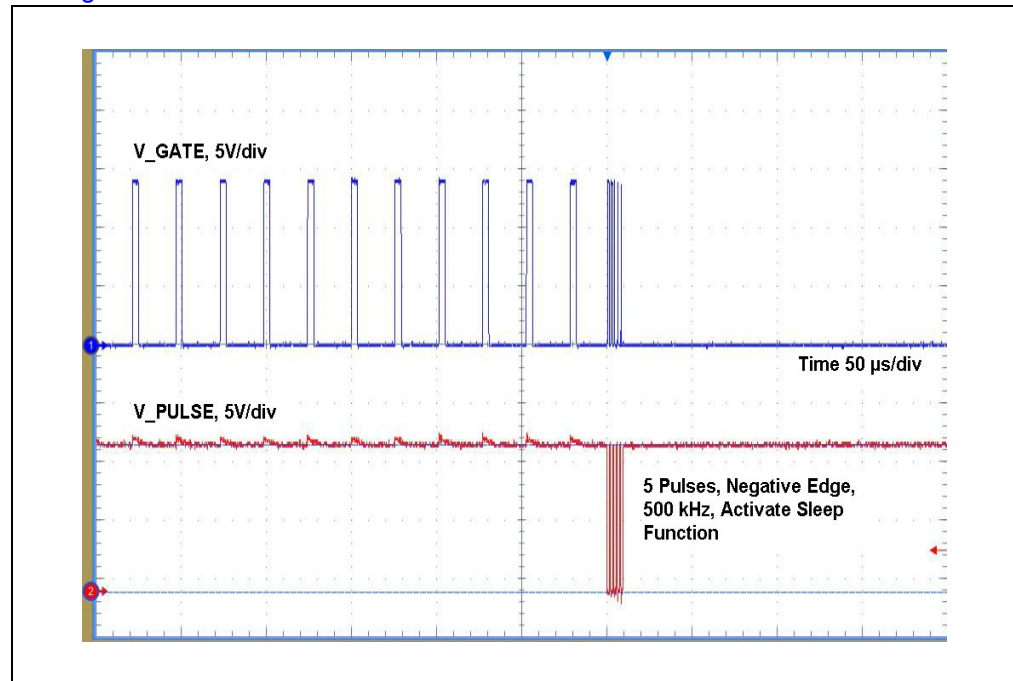
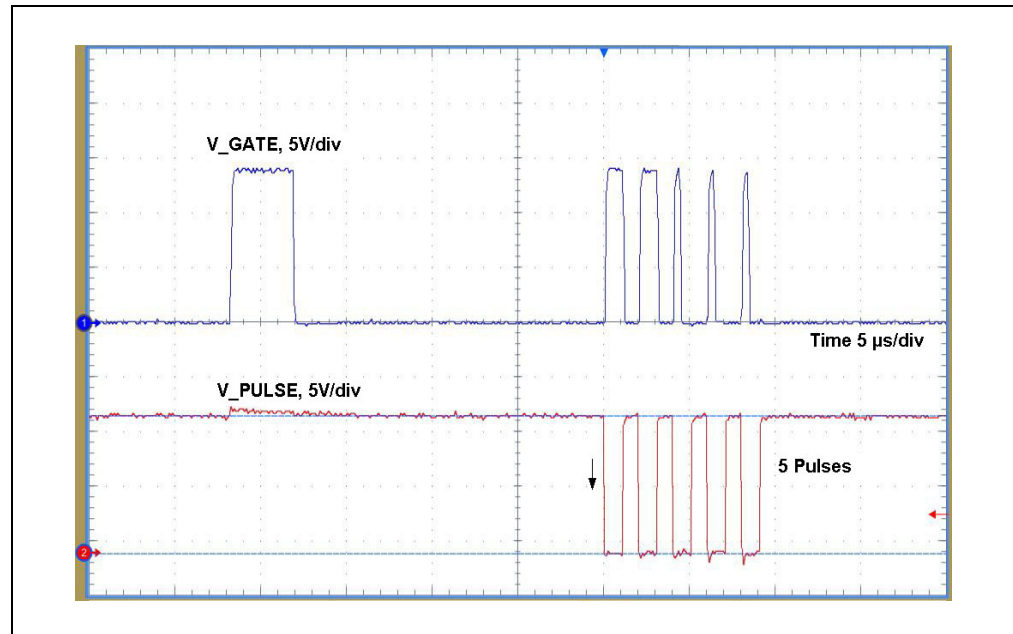

FIGURE 5-1: MCP1012 Sleep Command.
FIGURE 5-2: MCP1012 Sleep Command (Figure 5-1 Detail).
- Push the push button SW2 and check on the oscilloscope screen the V_GATE voltage and the PULSE signal, as they are presented in Figure 5-1 and Figure 5-2.